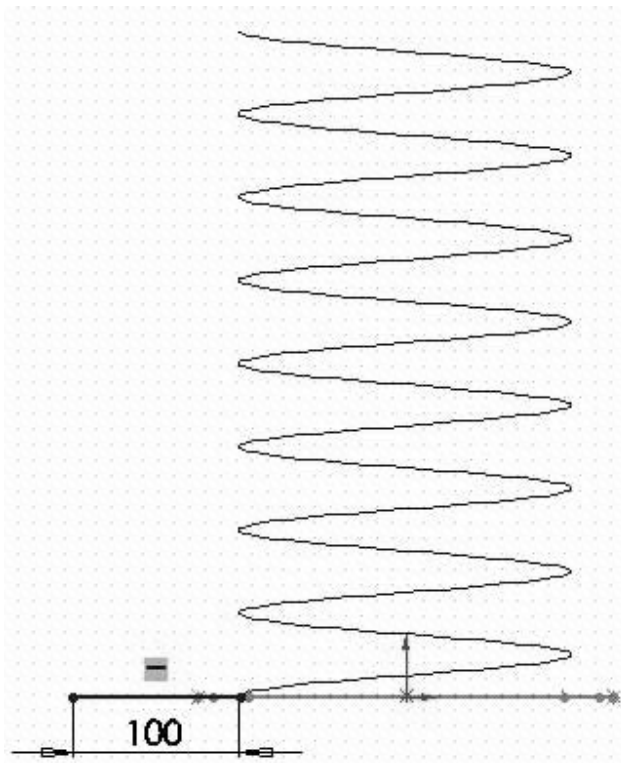

Figure 2 - Profile to sweep
6. The view is now oriented normal to the screen. Sketch the profile, as shown in the Figure 2. Exit the sketcher after sketching the profile.